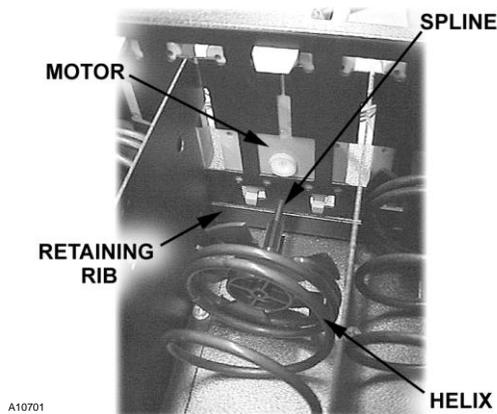

Figure 12—AUGER TIMING
1. Unsnap and lift the motor slightly and pull forward on the auger until it separates from the motor. See Figure 12.
3. Make sure the splined auger coupling snaps into place and is seated over the vertical rail (see Figure 12) or retaining rib on the tray.